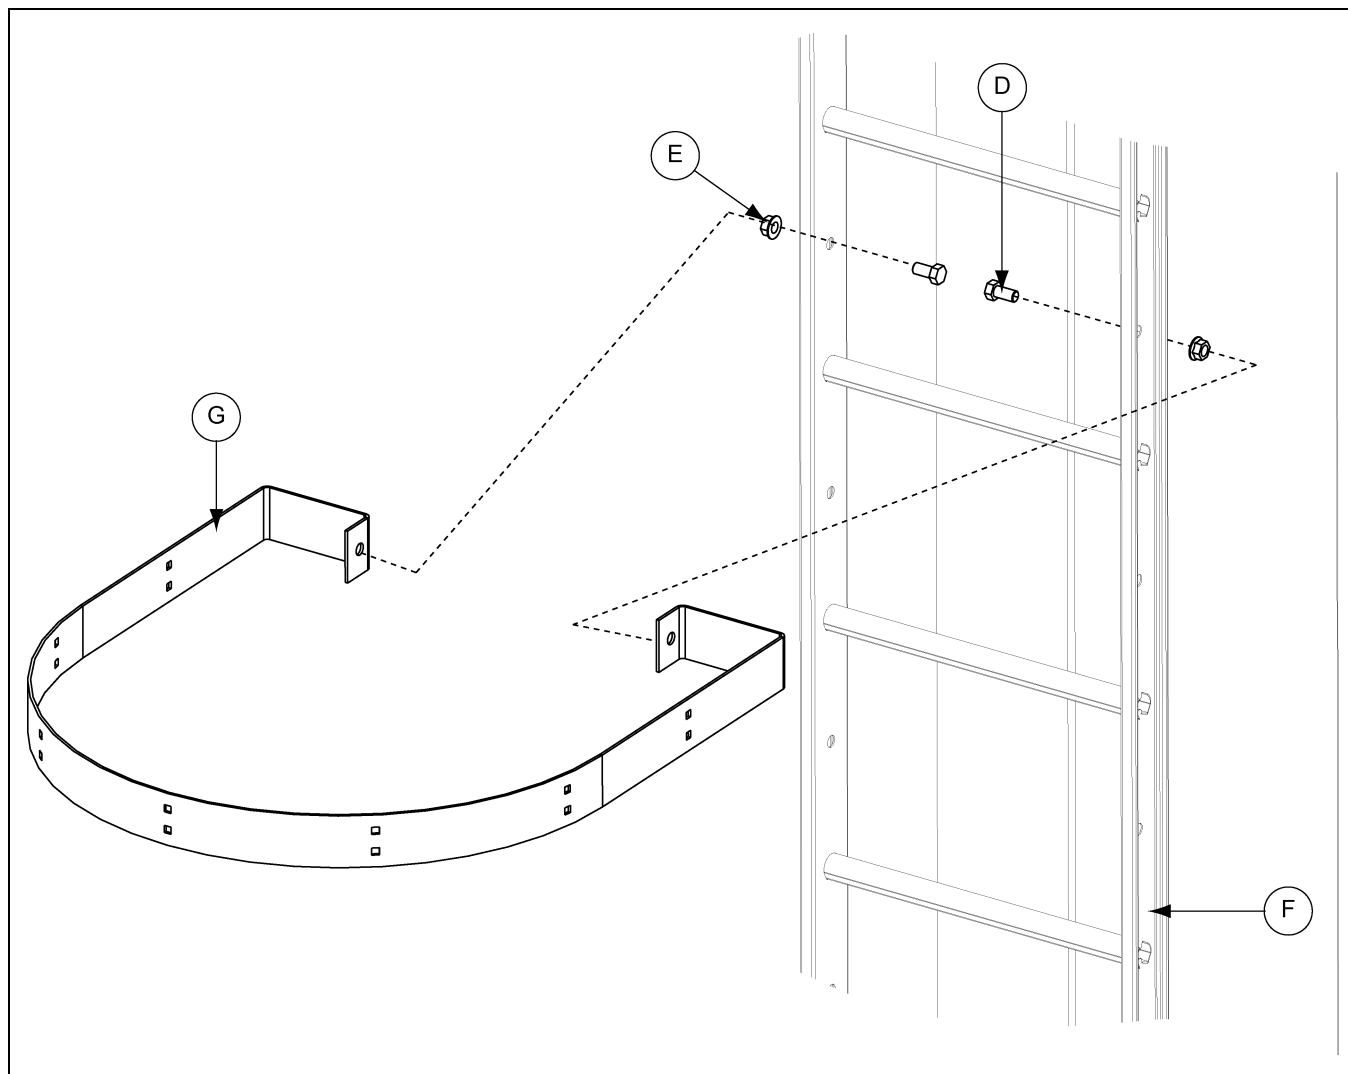

Figure 6T
2. Attach safety cage hoops to ladder using 1/2" x 1" bolts and nuts. *(See Figure 6T.)*